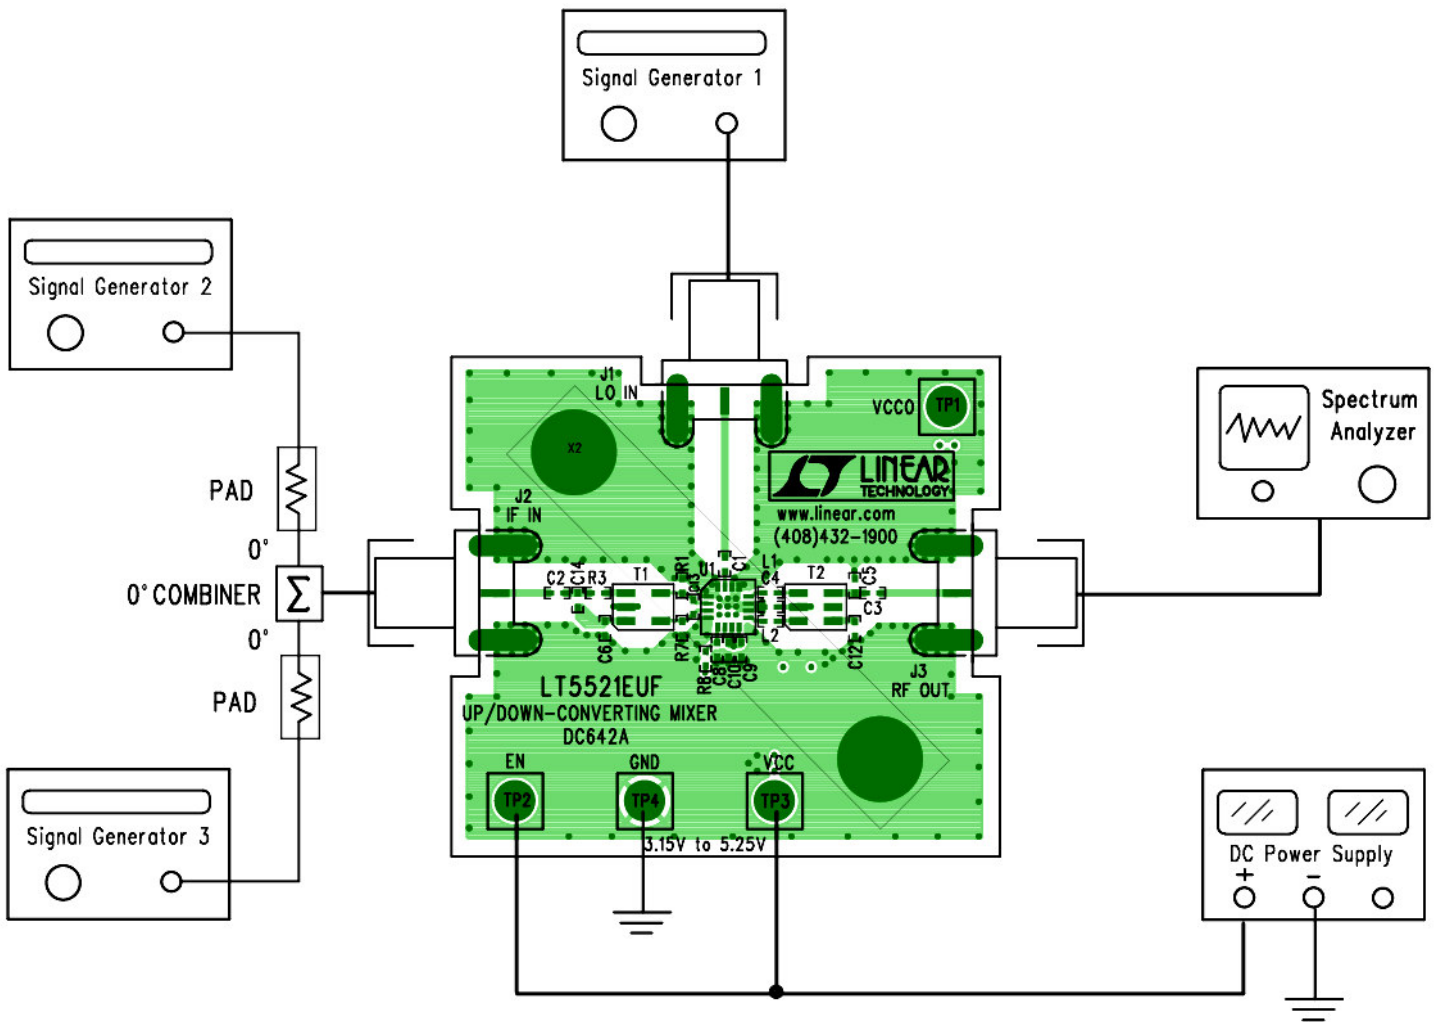

Figure 1. Proper Measurement Equipment Setup
Demonstration circuit 642 is easy to set up to evaluate the performance of the LT[®]5521. Refer to Figure 1 for proper measurement equipment setup and follow the procedure below:
1. Connect all test equipment as shown in Figure 1.